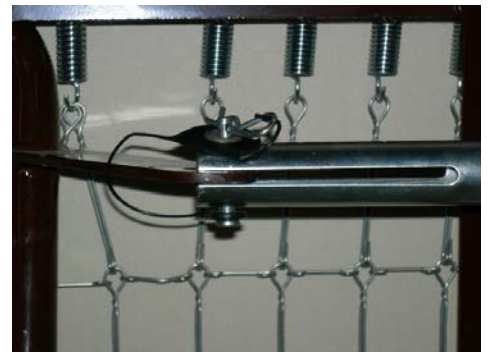

Figure 9F
3. Connect the pull tube assembly to the lift-arm of the head spring by inserting the clevis pin into the lift-arm slot. Reconnect the cotter pin. (Fig. 9F)